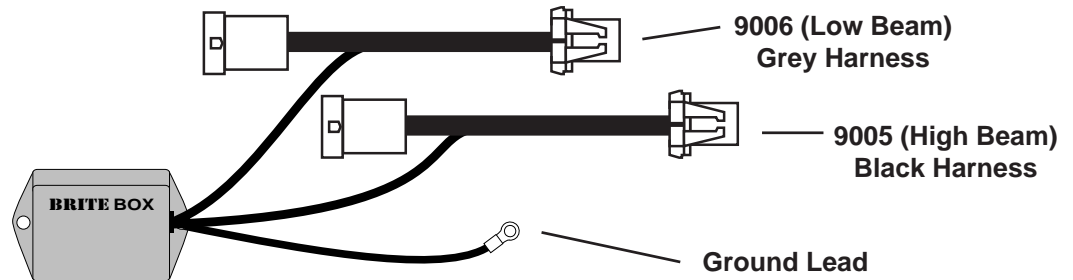

Figure 1
**STEP 2:** Find a suitable location to mount Brite Box on inner fender of vehicle near battery. Make sure the low and high beam harnesses from Brite Box (see figure 1) can be run to the vehicle's headlight wires. The black wire of Brite Box must be able to reach a solid chassis ground.